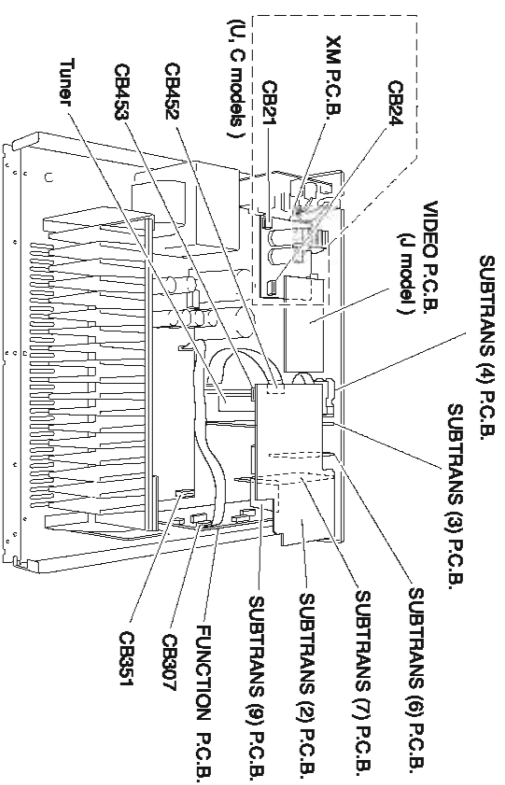

Fig. 4
4. Removal of FUNCTION, SUBTRANS (2), (3), (6), (7), (9), (10), CONVERSION (HTR-5850), XM (U, C models) P.C.B.s and Tuner
- Remove CB21, CB24 (U, C models), CB307, CB351, CB452, CB453 and CB706 (HTR-5850). (Fig. 4)
- Remove FUNCTION, SUBTRANS (2), (3), (4) (RX-V457/HTR-5840), (6), (7), (9), (10) (HTR-5850), CONVERSION (HTR-5850), XM (U, C models) P.C.B.s and Tuner. (Fig. 4)
4. FUNCTION, SUBTRANS (2), (3), (6), (7), (9), VIDEO, TUNERの外方
- CB307, CB351, CB452, CB453を外します。(Fig. 4)
- FUNCTION, SUBTRANS (2), (3), (6), (7), (9), VIDEO, TUNERを取除外します。(Fig. 4)